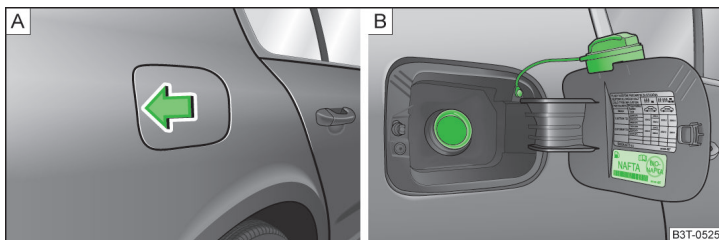

Fig. 159 Open fuel filler flap / tank cap
The correct grades of fuel for your vehicle are stated on a sticker affixed to the inside of the fuel filler flap » Fig. 159 on page 180 - .
- › Press on the fuel filler flap in the direction of the arrow » Fig. 159 - A.
- › Unscrew the filler cap by turning it in a counter clockwise direction and place the cap onto the top of the fuel filler flap » Fig. 159 - B.